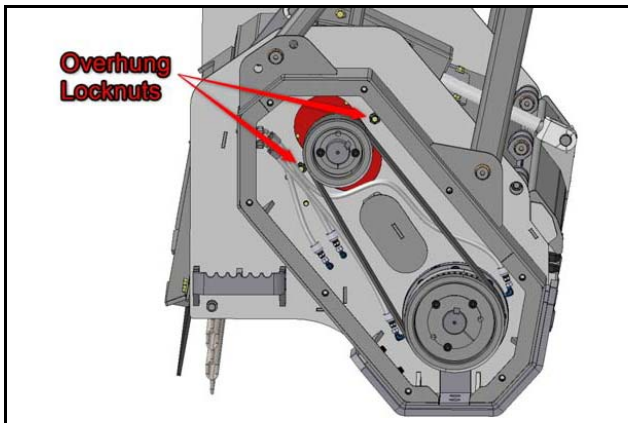

Figure 11
2. Loosen both overhung locknuts [Figure 11].